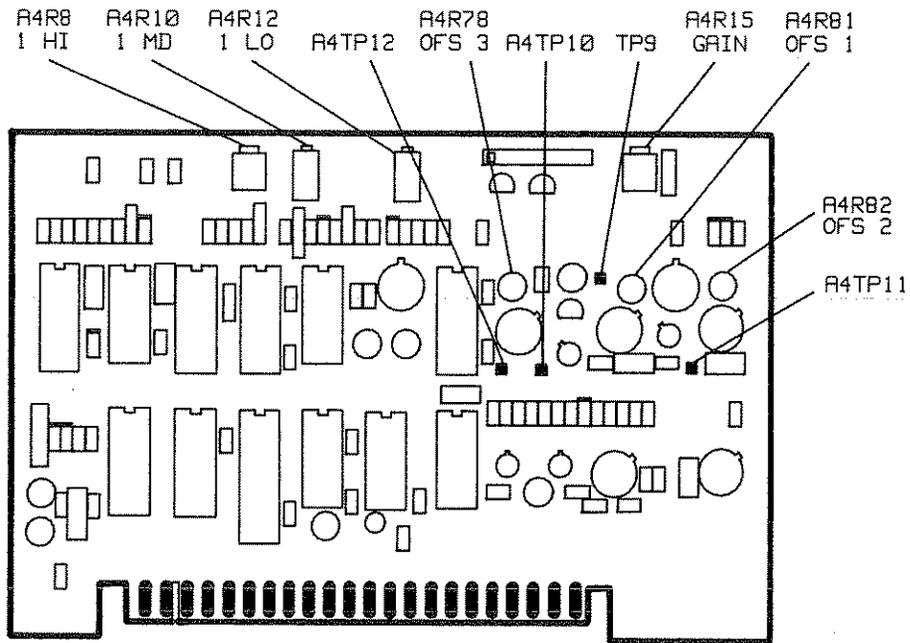

Figure 5-15. ALC Adjustment Location
4. Preset the following adjustments as indicated (Refer to figure 5-15):